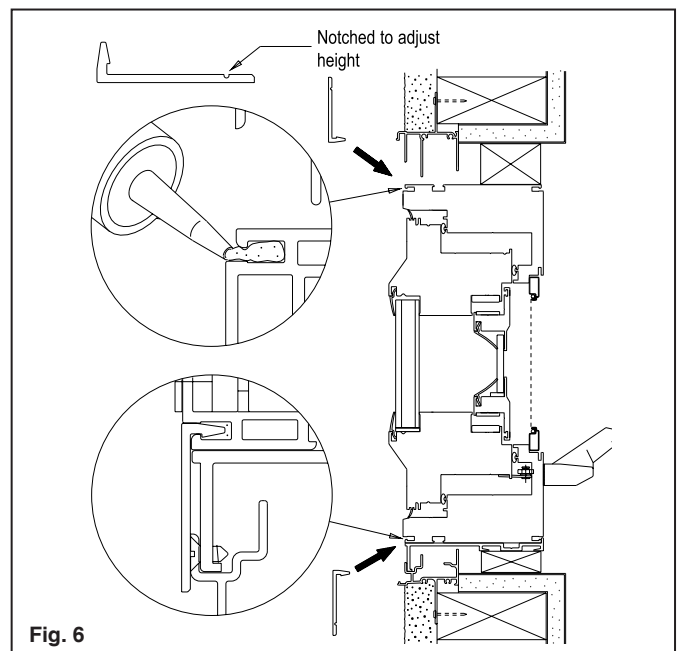
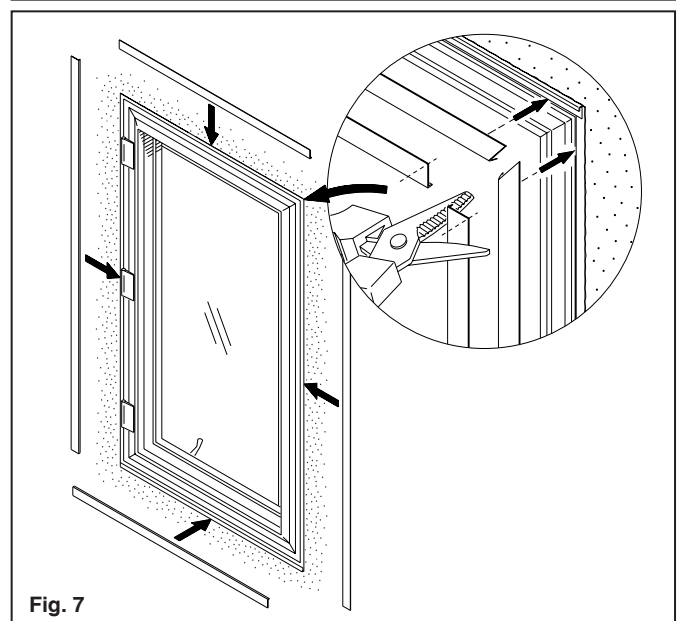

Fig. 6
Fig. 7
A. An optional flat trim material is available to finish off the exterior look. The trim material will be sealed with an appropriate sealant and snapped into the gap that follows the perimeter of the frame. See **Fig. 6**. Measure the pieces to the frame and with a sharp knife or a heavy scissor, make a 45° cut for a miter fit. Care should be taken not to over cut trim. See **Fig. 7**.